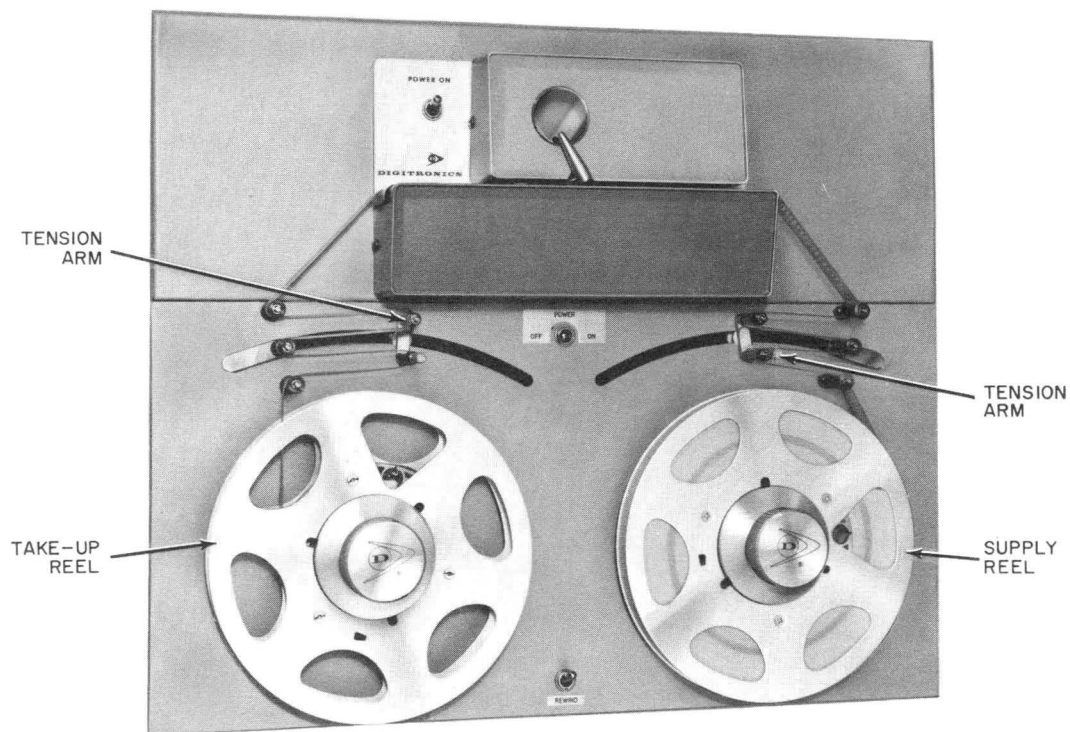
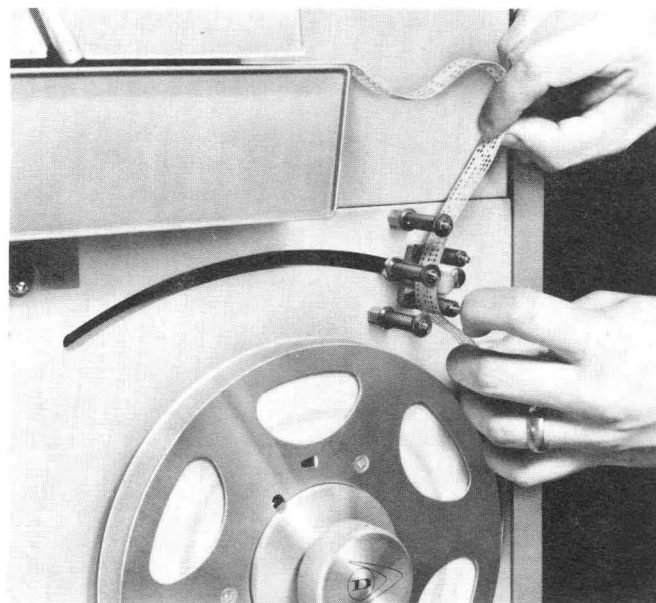

Figure 3-2. Threading Tape Handler
Figure 3-3. Tape Insertion Between Tension Arm and Fixed Guide
- (d) Thread the tape through the right-hand rollers, through the tape reader, and through the left-hand rollers as illustrated in Figure 3-2 and Figure 3-3.